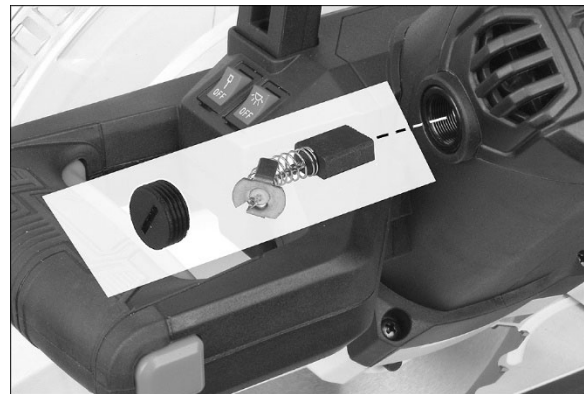

Figure 10-1
2. Unscrew and remove cap with a flat blade screwdriver. See Figure 10-1. Note: Unscrew cap cautiously – the brush spring will push it out.